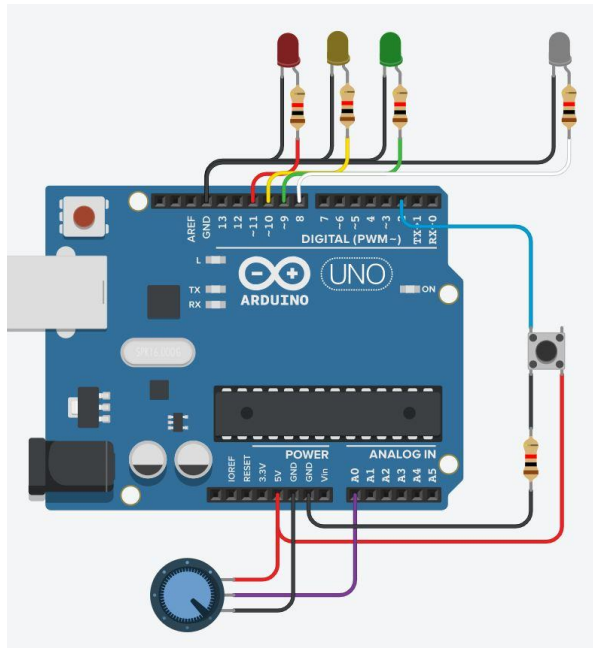

Figure 2: Configurable traffic light control system
The traffic light will be simulated using three light-emitting diodes (LEDs); one red, one yellow, and one green. Each of these LEDs is connected to a different digital IO pin on an Arduino Uno (e.g., see Figure 2).
The traffic lights can only be configured when the system enters “configuration mode”. To enter configuration mode, the user presses a tactile push button (see Figure 2) at any time during the traffic light cycle, and in any state of operation (1 through 4). When that button is pressed, the system **continues to operate until the next red light**, at which point the system enters configuration mode.
- **A fourth LED** (see white LED at top-right of Figure 2) should be used to represent the current state of the traffic lights: this LED encodes a state number, x , by **blinking x times in 1 second**, and then **remaining off for 2 seconds**. For example, in State 3, the LED should issue three pulses (each pulse period = 0.33 s; duty cycle = 50%) and then remain off for 2 seconds. In State 4, the LED should issue four pulses (pulse period = 0.25 s; duty cycle = 50%) and then remain off for 2 seconds. This three-second cycle should repeat for as long as the system remains in configuration mode.
- **States can be selected using a potentiometer via ADC input** (see Figure 2). The full range of ADC outputs should be used when selecting a State. For example, if an 8-bit ADC produces 256 digital words/codes, then words/codes 0 through 63 should be used to select State 1, 64 through 127 to select State 2, and so on.